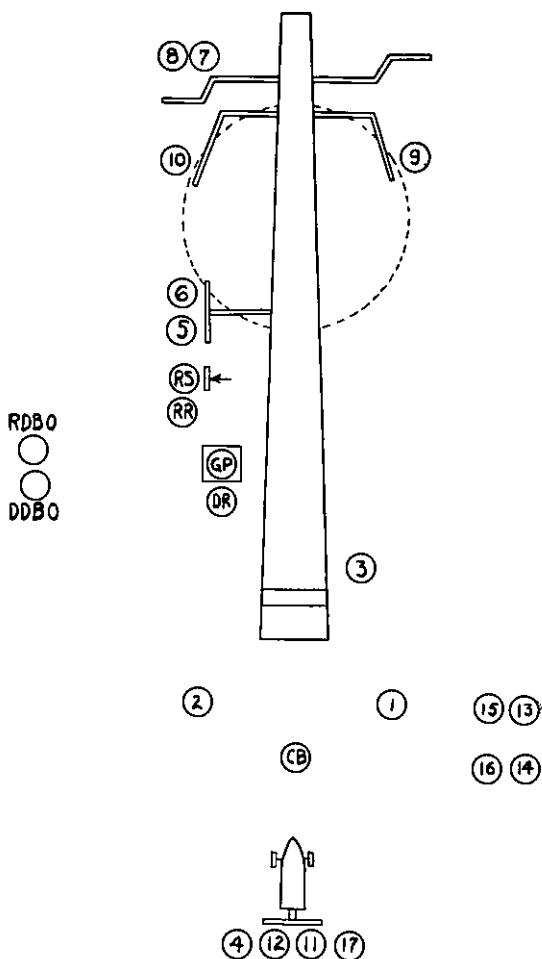

FIGURE 2.—DETAILS, POSTS.
b. He commands: 1. **DETAILS**, 2. **POSTS**, when the section arrives in rear of the emplacement, and supervises the procuring of equipment. After all details have reached their posts (fig. 2), he commands: **EXAMINE GUN**. He then makes an inspection of the gun, carriage, and other matériel, paying special attention to the recoil and counterrecoil systems, firing mechanism, safety devices, and the oiling of the various bearings. He receives the reports of the chief of ammunition and from the various details of the gun squad, and reports to the officer in charge of the emplacement, "Sir, No. ——— in order," or reports defects which he is unable to remedy without delay.